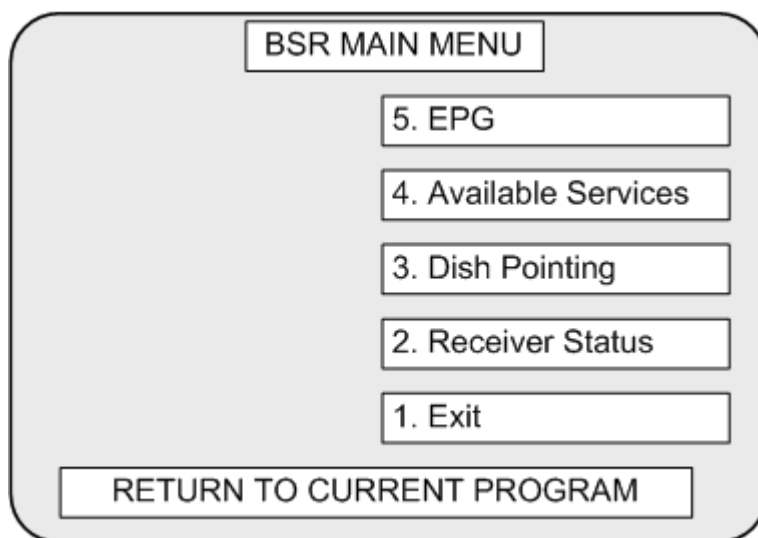

Figure 4-8 BSR Main Menu
7. Using the remote control, display the BSR MAIN MENU by pressing the Menu button. See Figure 4-8 for example.